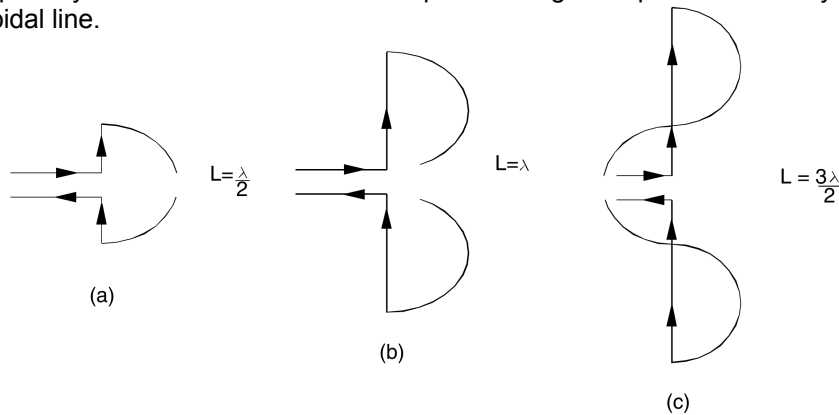

Figure 1-8. Current distributions in centre-fed dipoles
As stated previously, the current distribution of the dipole antenna is not uniform. Instead, it is zero at the ends of the antenna wires, and may be highest at the centre or at other points, depending on the length of the dipole and the frequency of the signal from the transmitter. Figure 1-8 shows the current distribution in centre-fed dipoles of lengths  $\lambda/2$ ,  $\lambda$ , and  $3\lambda/2$ . In this figure, the arrows represent the current directions at a particular instant. The magnitude and polarity of the current at different points along the dipole is shown by the sinusoidal line.
**Note:** The high impedance of the  $\lambda$  dipole can be seen from Figure 1-8. This figure shows that the current is null at the centre of the antenna, where the transmission line is connected. The resistance is therefore infinite, in theory, at this point.